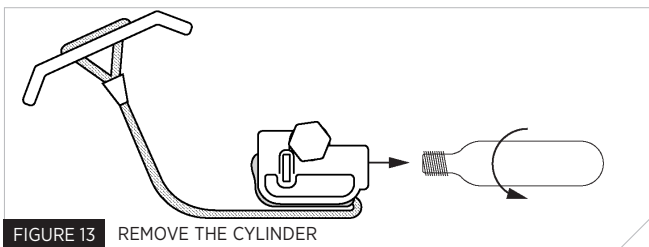

FIGURE 13 REMOVE THE CYLINDER
3. Remove the cylinder by rotating counterclockwise and then pull out (see Fig. 13). **Discard the used cylinder.**